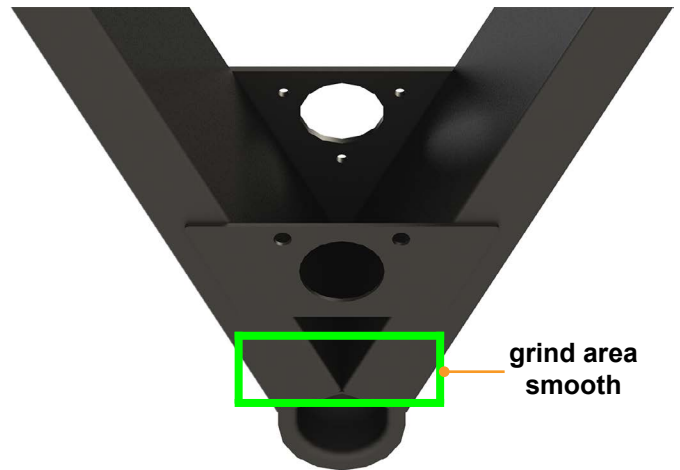

Fig.2
3. Use the die grinder and grinding wheel attachment to grind the cut areas smooth (Fig.2).